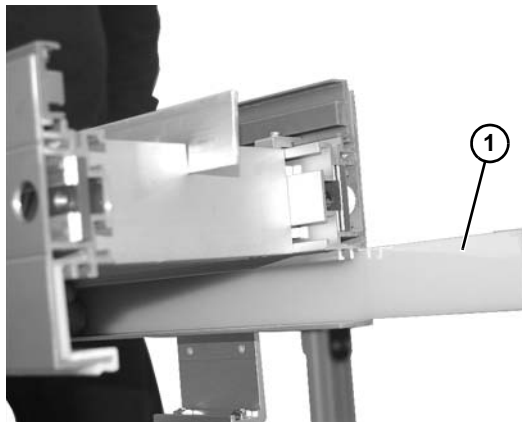

Figure 44
1. Slide lower vertical wear strips (**Figure 44, item 1**) from frame assembly.